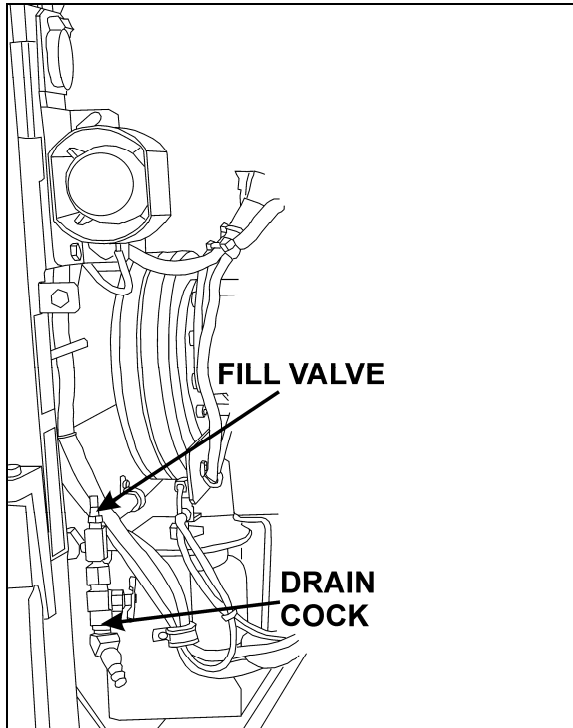

FIGURE 51: REAR VALVE LOCATION 12211
A remote valve located in engine compartment and accessible through engine R.H. side door is used to **drain** the air dryer (Fig. 51).
**The rear valve** is located in engine compartment and accessible from engine R.H. side door (Fig. 51).